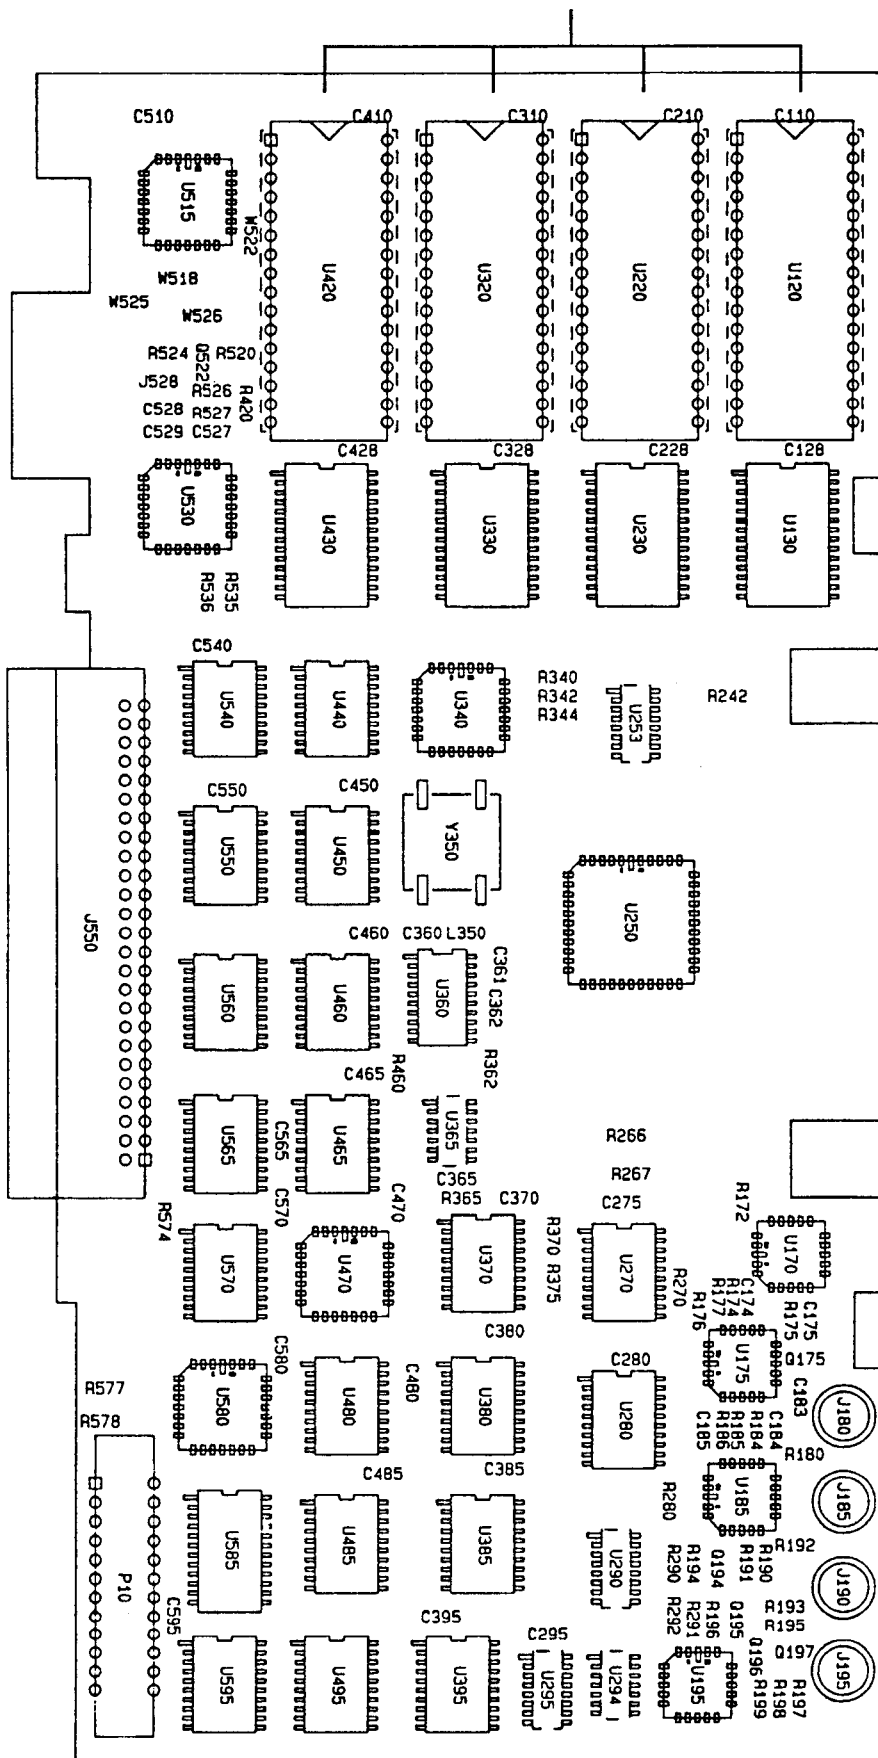

Figure 8.
- (b) Install the following ROM's on the Microprocessor board. See Figure 8.